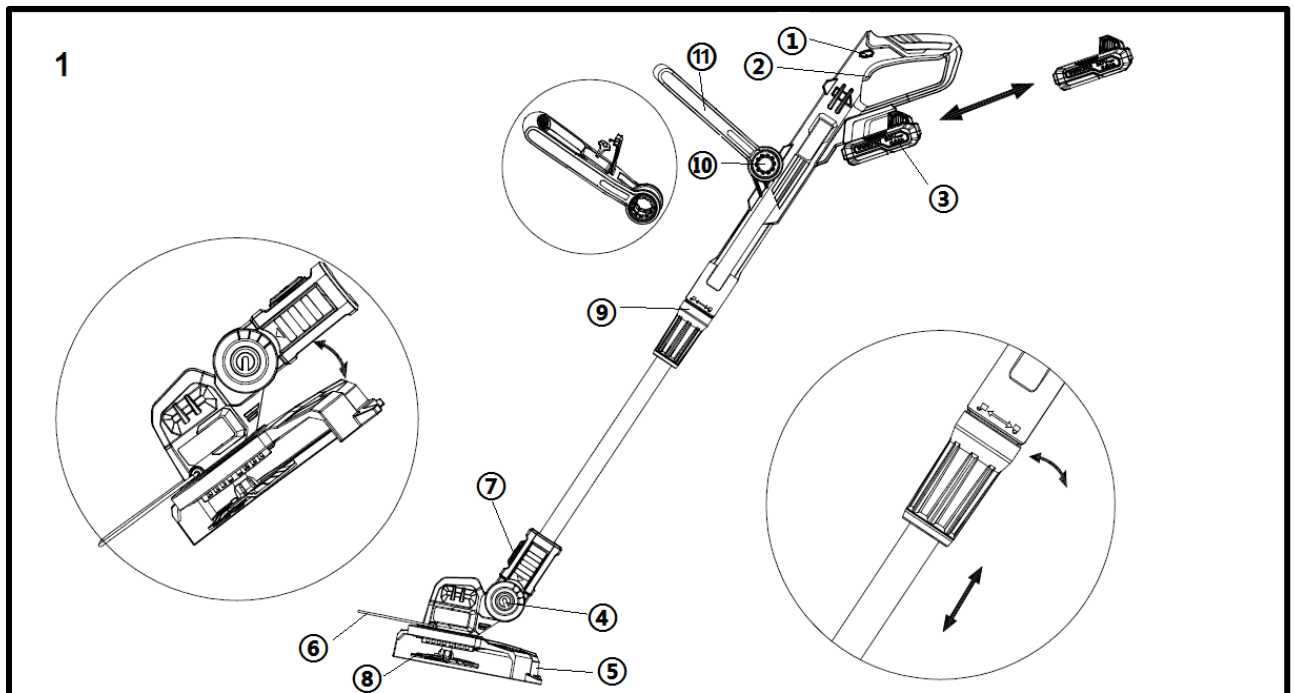

Figure 1: Grass trimmer
Adjust the grass trimmer to your height. To do this, loosen the threaded sleeve on the shaft coupling (Figure 1, item 9). Pull out the lower shaft until the ideal spar length is reached. Tighten the threaded sleeve
Adjust the handlebar to your height. To do this, press the button on both sides of the handlebar and keep it pressed (Figure 1, item 10). Place the handlebar in the desired position. Release the button when the desired position is reached.
With the grass trimmer, 3 angles of head tilt can be adjusted. This allows you to easily reach problematic and hard to reach places in the garden. The cutting head should always be parallel to the ground. Press the locking knob (fig. 1, point 4) to set the desired working angle.
Insert the battery into the rail provided. Then push in the safety lever (Figure 1, item 1) at the side, only then you can operate the on/off switch (Figure 1, item 2). The device now starts to work. If you release the on/off switch, the device stops working. Attention: after releasing the on/off switch, the disc continues to rotate for a few seconds until it has come to a complete stop. For an immediate stop, press the disc onto the lawn.